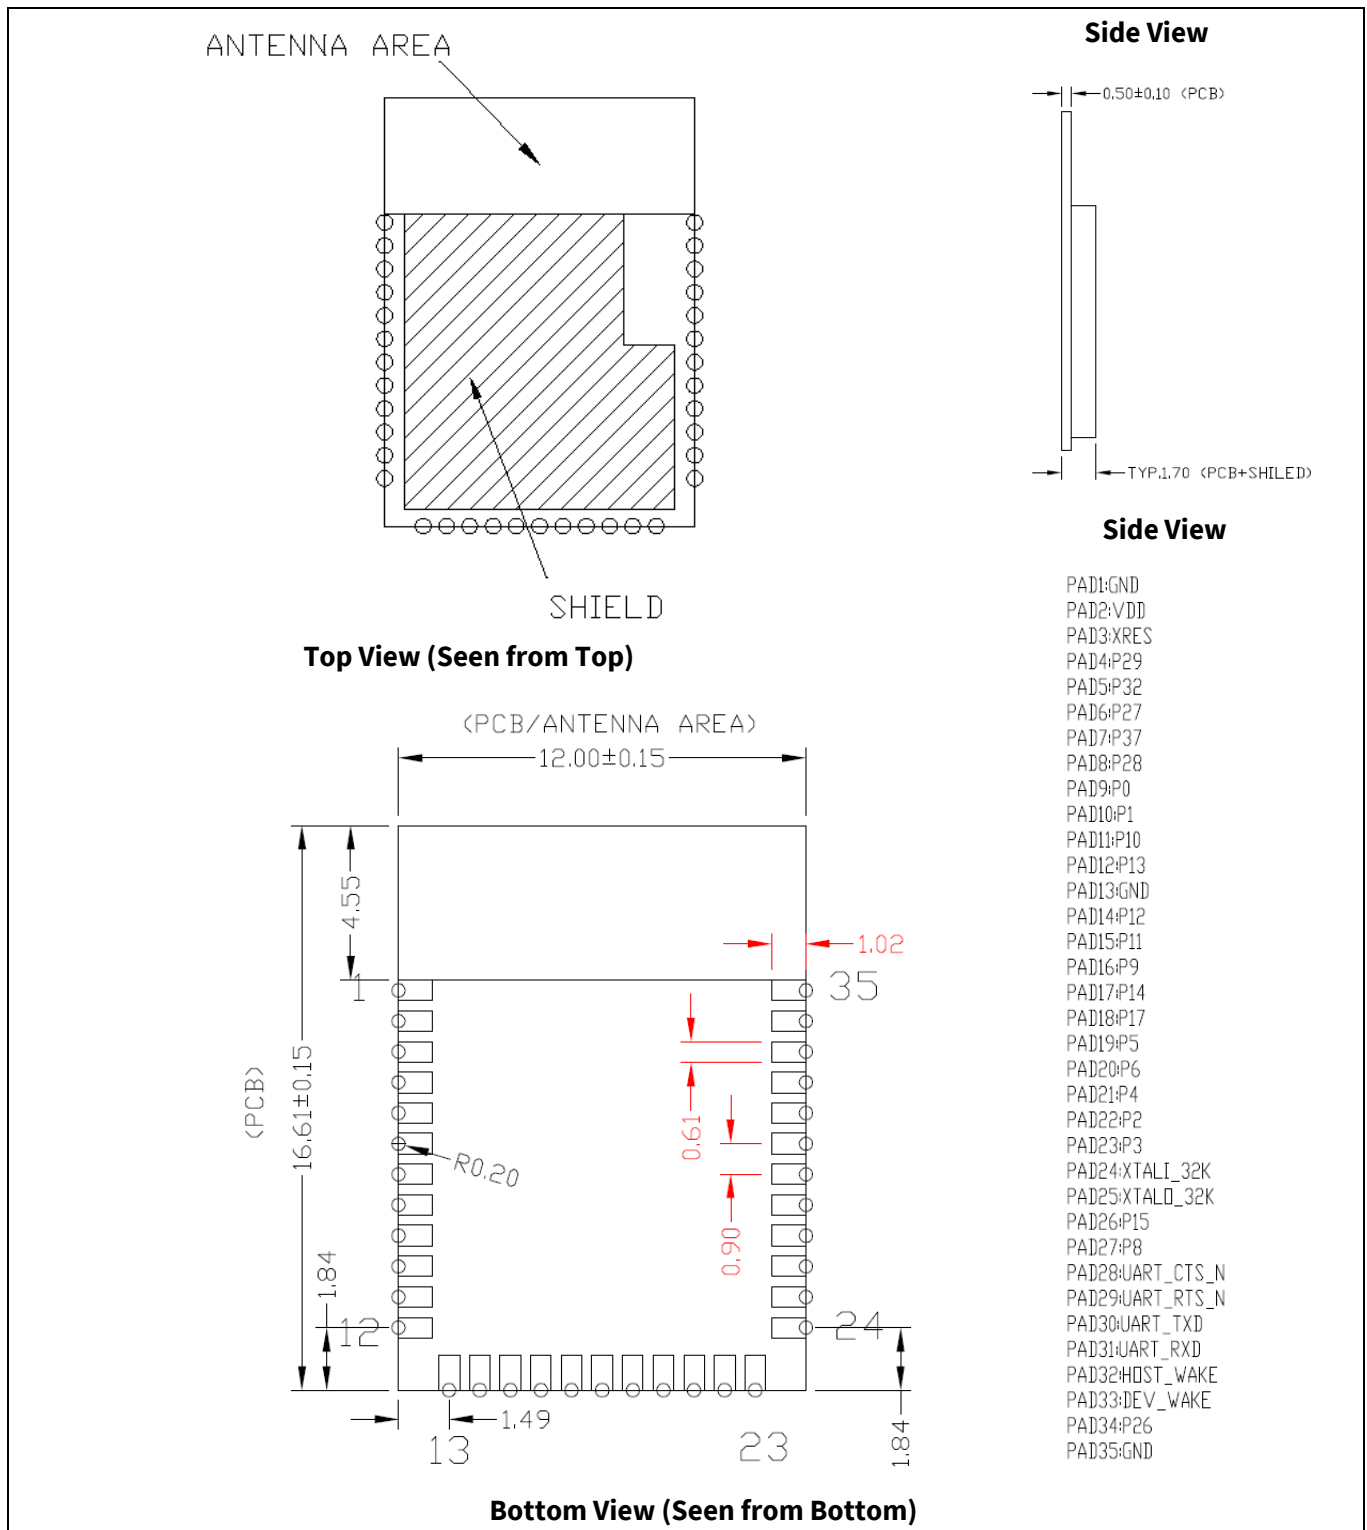
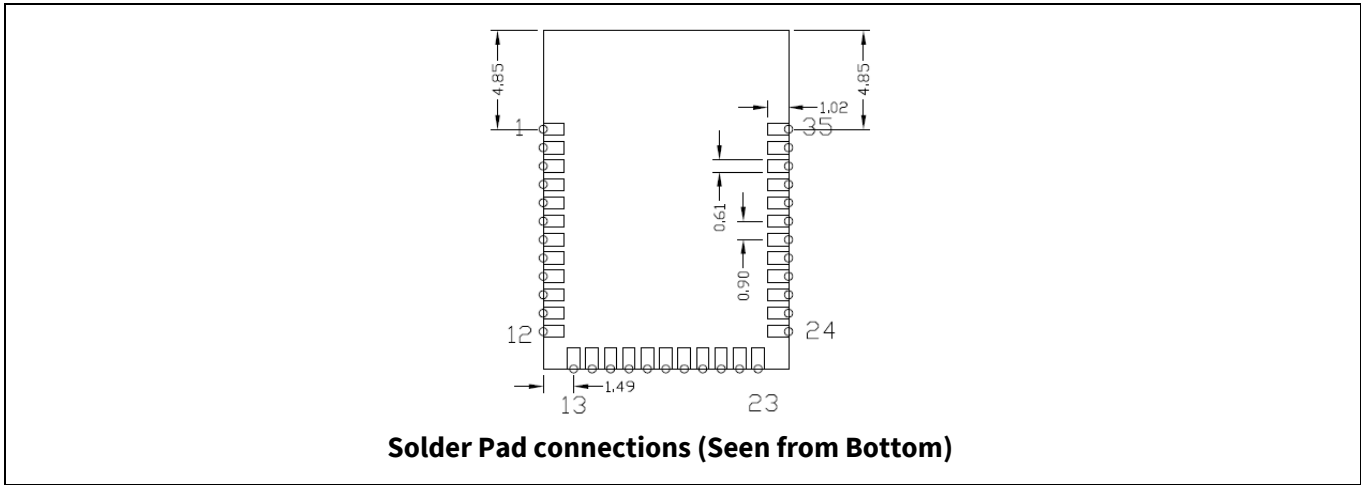
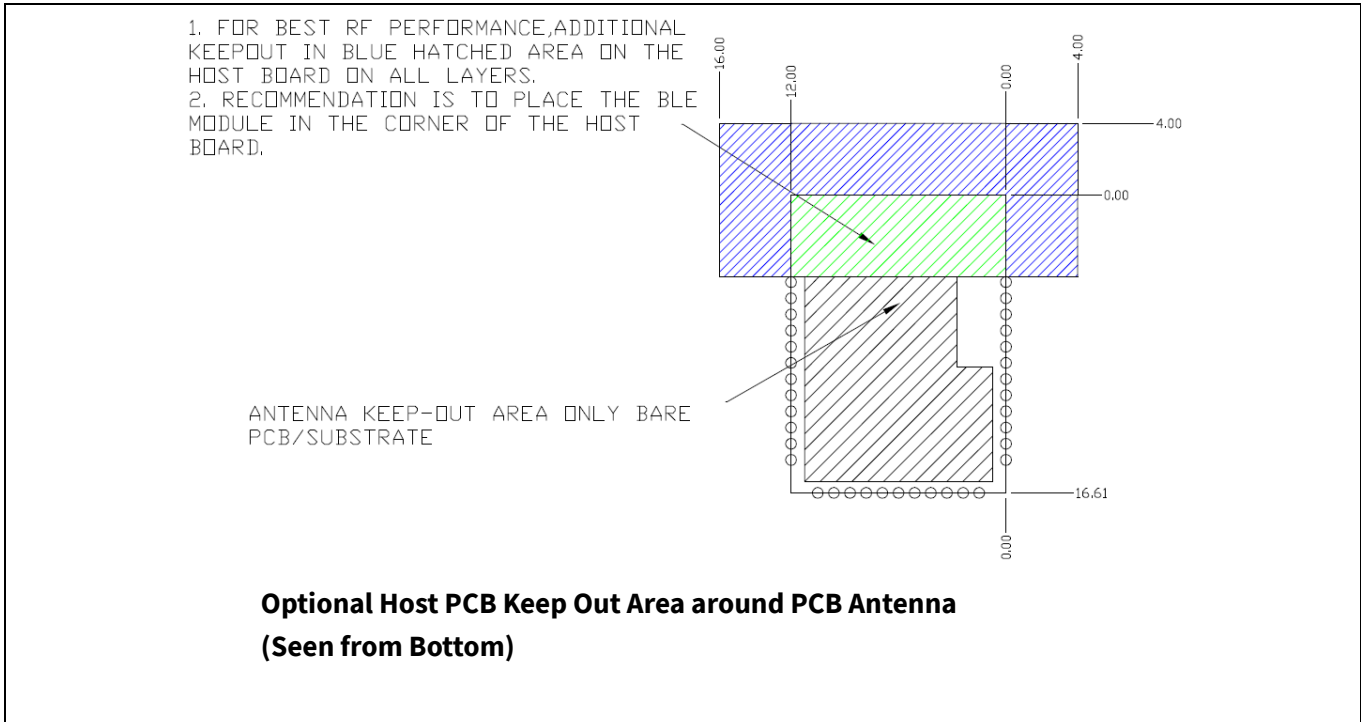

Figure 2 Module mechanical drawing
Figure 3 Solder Pad dimensions (Seen from Bottom)
Figure 4 **Optional Additional Host PCB Keep Out Area around the CYBT-243053-02 PCB Antenna**
Infineon reserves the right to select components from various vendors to achieve the Bluetooth® module functionality. Such selections will still guarantee that all mechanical specifications and module certifications are maintained. The CYBT-243053-02 will be held within the physical dimensions shown in the mechanical drawings in Figure 2. All dimensions are in millimeters (mm).
See Figure 2 for the mechanical reference drawing for CYBT-243053-02.
As shown in the bottom view of Figure 2, the CYBT-243053-02 has 35 connections to a host board via solder pads (SP). Table 2 and Figure 3 detail the solder pad length, width, and pitch dimensions of the CYBT-243053-02 module.
1. Antenna Area Keepout: The host board directly below the antenna area of the Infineon module (see Figure 2) must contain no ground or signal traces. This keep out area requirement applies to all layers of the host board.
2. Module Placement: The ideal placement of the Infineon Bluetooth® module is in a corner of the host board with the PCB antenna located at the far corner. This placement minimizes the additional recommended keep out area stated in item 3 below. Refer to AN96841 for module placement best practices.
3. Optional Keepout: To maximize RF performance, the area immediately around the Infineon Bluetooth® module PCB antenna may contain an additional keep out area, where there are no grounding or signal traces. The keep out area applies to all layers of the host board. The recommended dimensions of the host PCB keep out area are shown in Figure 4 (dimensions are in mm).